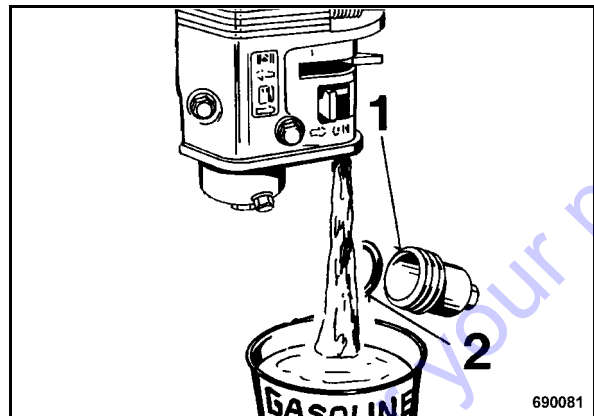

Fig. 63
- Unscrew the sediment filter (1) (Fig. 63), drain off and catch all fuel.
- Check the seal (2) for damage, change if necessary.